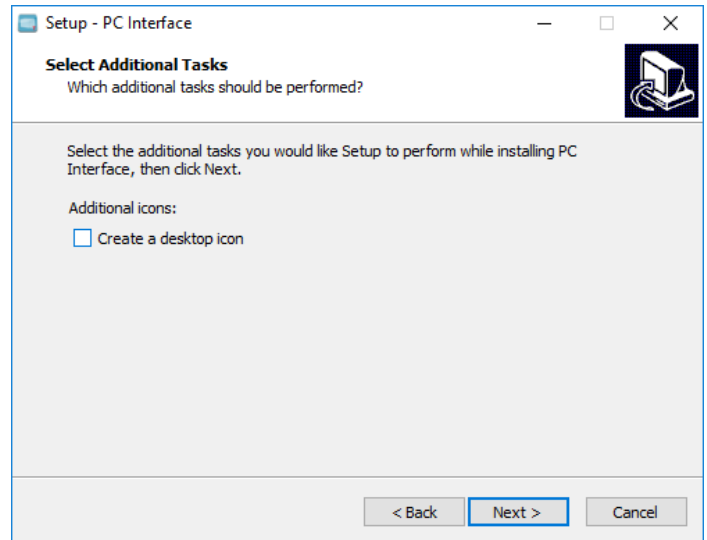

Figure 99. Additional Tasks Screen
- Check the check box of create a desktop icon is required. See **Figure 99**. Select Next.